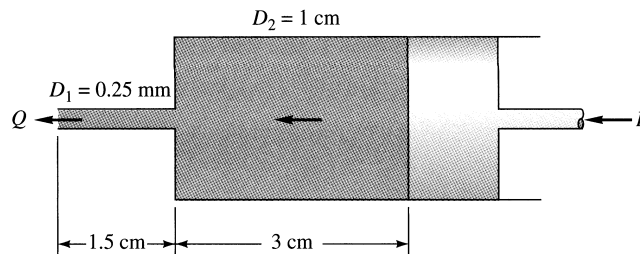

Fig. P6.22
**6.22** A steady push on the piston in Fig. P6.22 causes a flow rate  $Q = 0.15 \text{ cm}^3/\text{s}$  through the needle. The fluid has  $\rho = 900 \text{ kg/m}^3$  and  $\mu = 0.002 \text{ kg/(m}\cdot\text{s)}$ . What force  $F$  is required to maintain the flow?